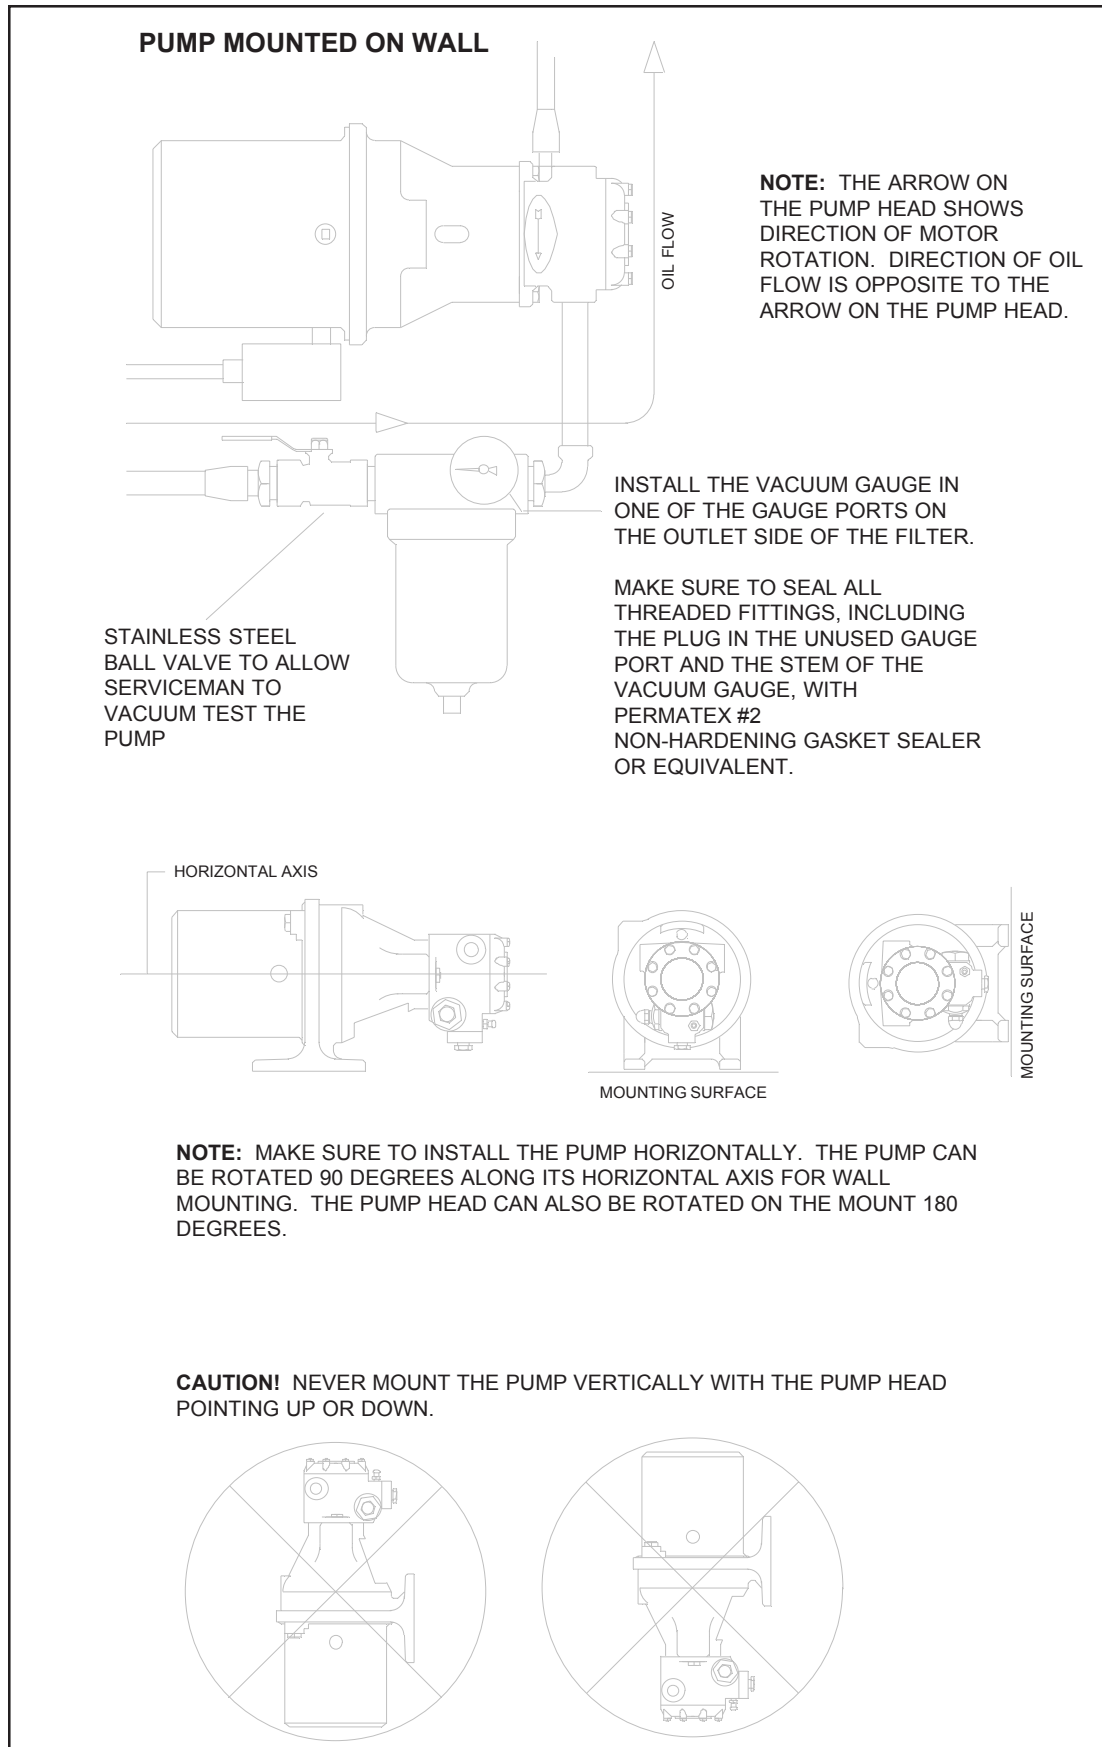

Figure 4H - Detail of Pump Installation for Above Ground Inside/Outside Tank
2. Also refer to the oil pump installation diagram provided in this section (Figure 4H).